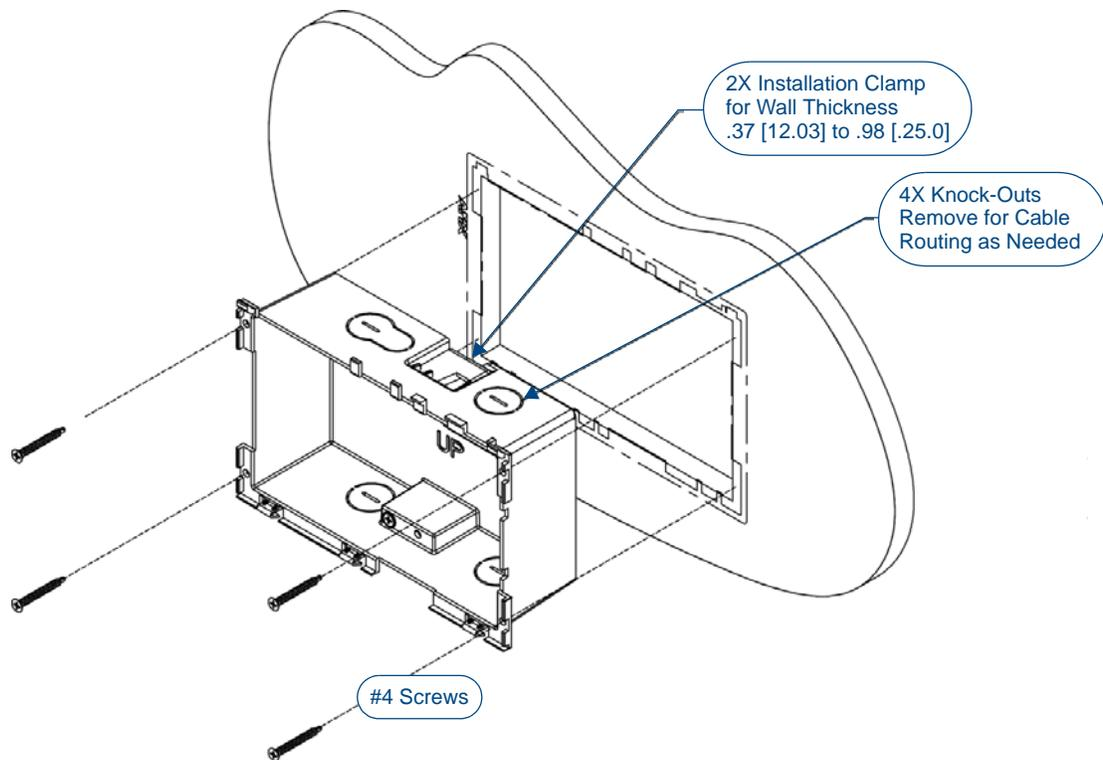
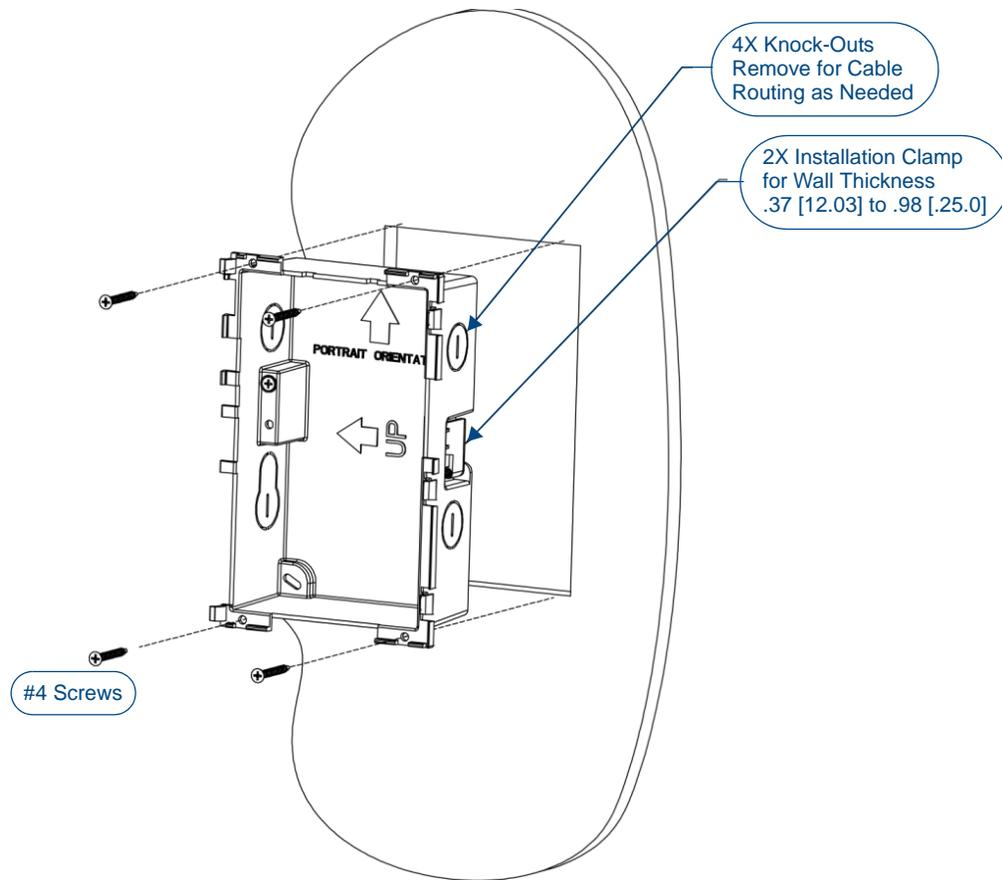

FIG. 35 MXD-700 Backbox Installation (Landscape)
FIG. 36 MXD-700 Backbox Installation (Portrait)
3. Thread the incoming cables through the surface opening (FIG. 35 and FIG. 36).
- For additional strength, #4 mounting screws (not included) may be secured through circular holes located at the left and right sides of the MXD-700 (FIG. 35). In order to prevent damage to the touch panel, make sure that these are flush with the Backbox.